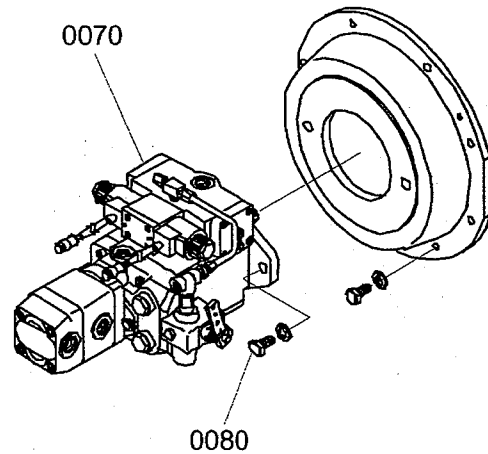

Fig25-00:
12. Fig25-00: Remove the bolts (0080) to detach the HST pump (0070).